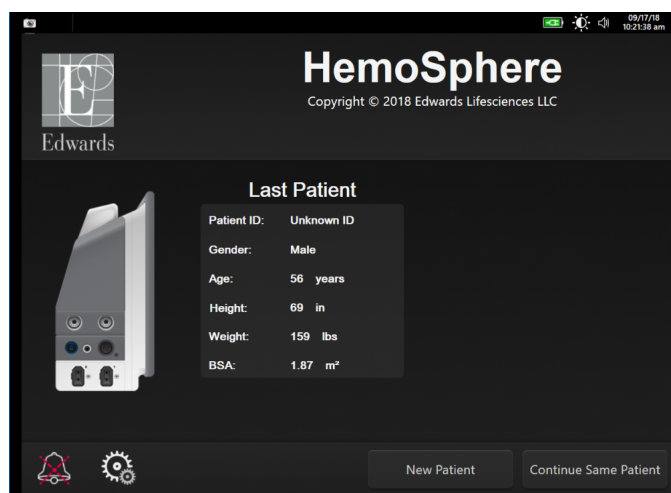

Figure 6-1 New or continuing patient screen
After the system is turned on, the user has the option to either continue monitoring the last patient or to start monitoring a new patient. See figure 6-1 below.
- 1 After turning on the monitor, the new or continuing patient screen appears (figure 6-1). Touch **New Patient** and continue to step 6.